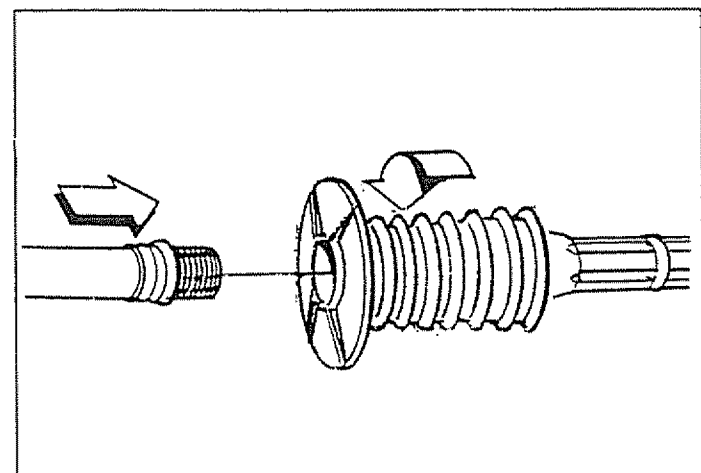

FIG. 23
- Remove additional debris by back flushing water supply through holder (Fig. 23). Back flush between 30 to 60 seconds. Turn wand to stream spray and move nozzle from low to high while flushing.